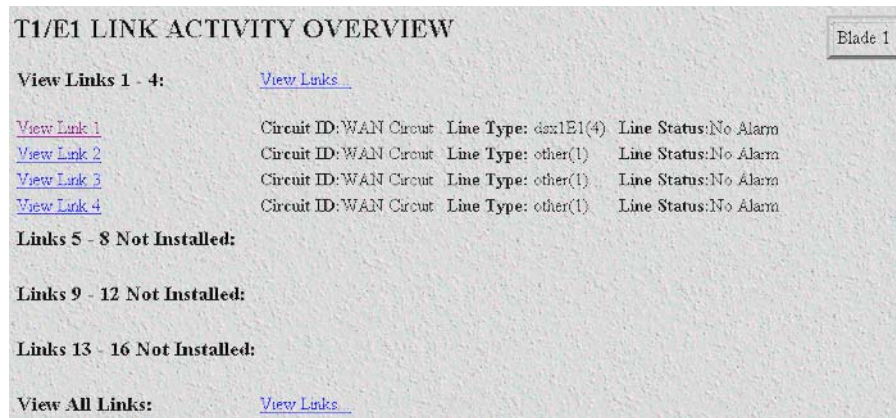

Figure 41. T1/E1 Link Activity Overview page
1. On the *3196RC Configuration Menu*, click the *T1/E1 Link* hyperlink to open the T1/E1 LINK ACTIVITY OVERVIEW page (figure 41).